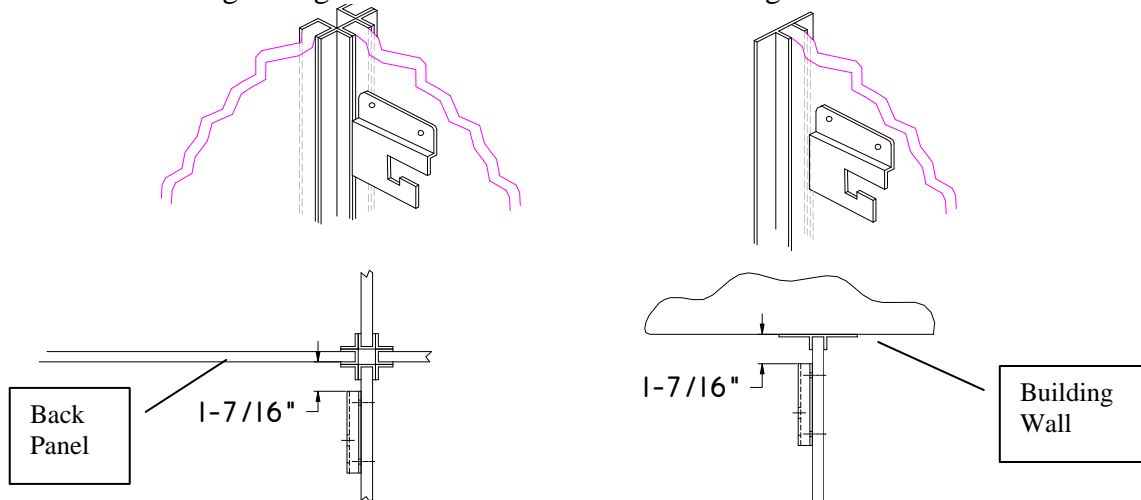

Figure 2.
2. Hold a support bracket so that the rear edge of the bracket is 1 7/16" from the back of the run. (Note: on back to back runs the bracket will be against the edge of the aluminum that frames the back edge of the division panel) Hold the top of the bracket even with the mark. Mark the wall for drilling through both holes in the bracket. See Figure 2.